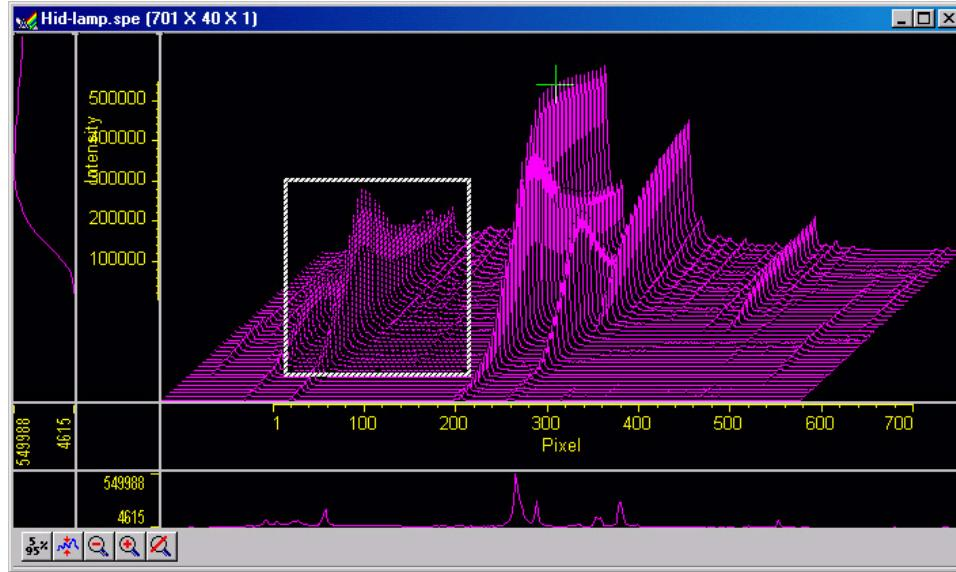

Figure 79. Hid-lamp.spe 3D graph with region selected for viewing
1. Using the mouse, drag a rectangular region on the image as shown in Figure 79.